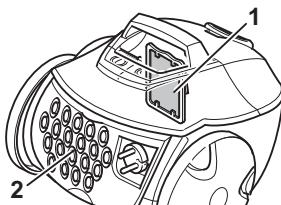

Fig. 21
- A **protective motor filter** (Fig. 21/1) prevents larger particles from destroying the motor if the dust filter bag is defective.
- A **hygienic exhaust filter** (Fig. 21/2) filters the finest particles from the blown-out air.